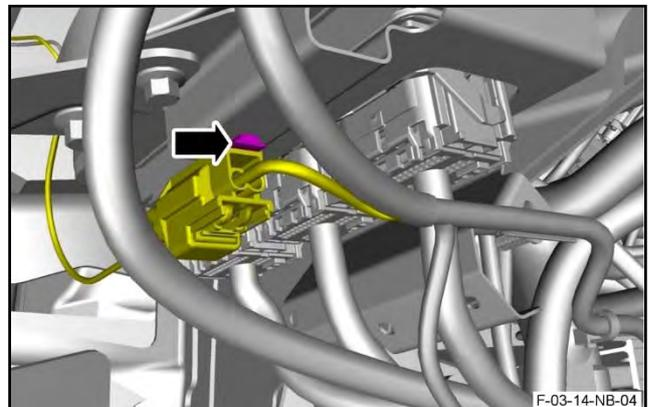

Figure 3
9. Release the electrical connector for the side repeater, from the clip that attaches it to the PCM bracket (refer to Figure 3).